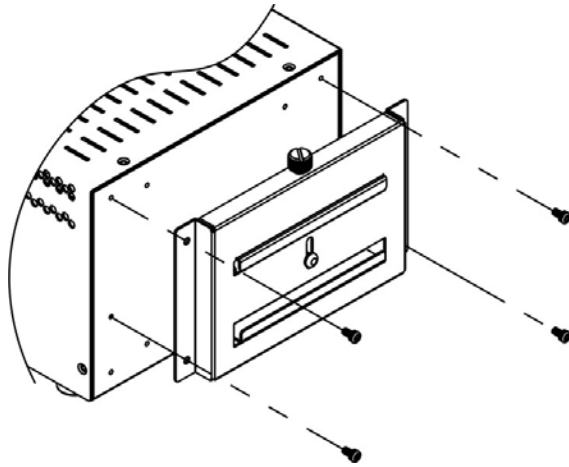

Figure 5-23: DIN Rail Mounting Bracket
Step 1: Attach the DIN rail mounting bracket to the rear of the monitor. Secure the bracket to the monitor with the supplied retention screws (**Figure 5-23**).